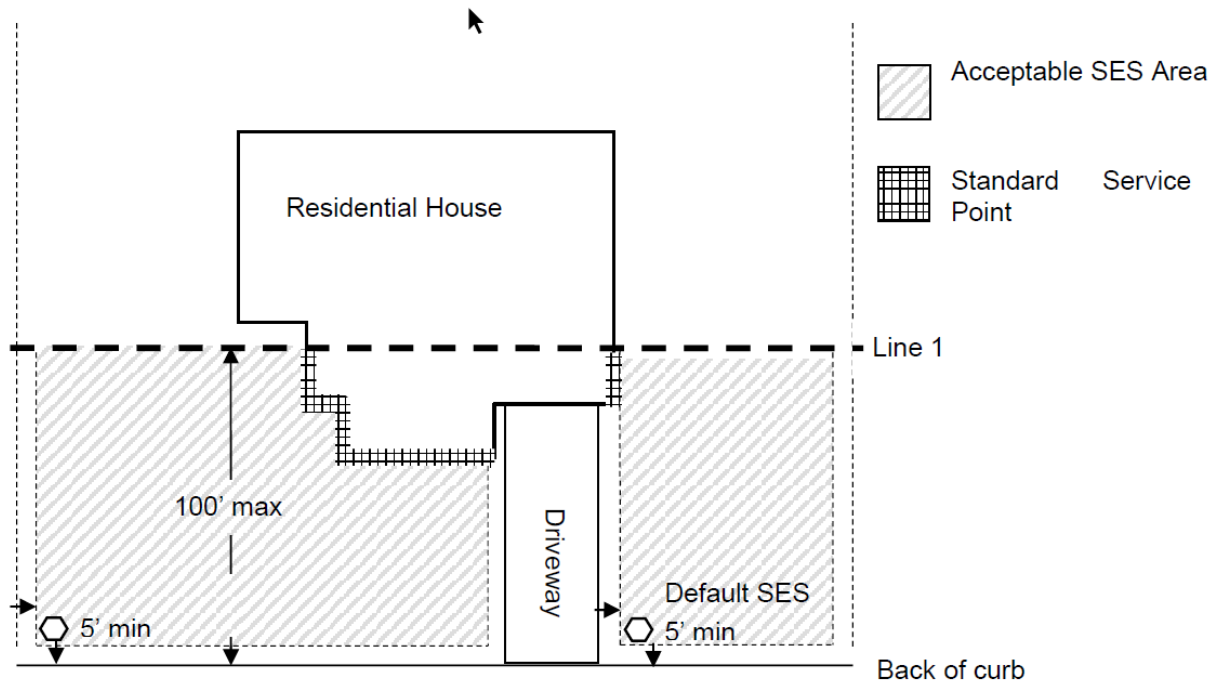

Figure 1. Locating the Standard Service Point
- RPI-2 - The meter serving a new single-family dwelling shall be mounted on the front of the building facing the serving line, or on an adjacent side within 10 feet of the front of the building. See Figure 1, There are other Figures on the NV Energy Web Page.